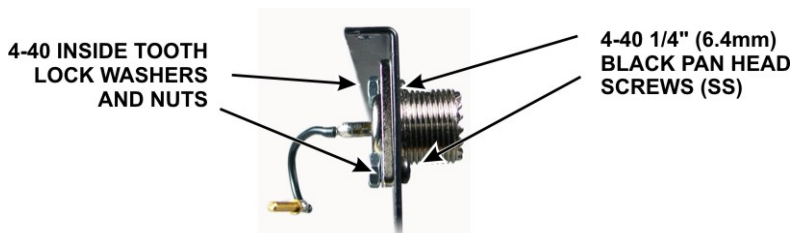

Figure 18. Mounting the ANT1 Connector.
Mount the SO239 connector in the ANT1 position on the rear panel using two 4-40 1/4" (6.4 mm) black pan head screws (SS), two 4-40 inside tooth lock washers and two 4-40 nuts as shown in Figure 18. The flange of the SO239 connector is on the inside (unpainted side) of the rear panel.